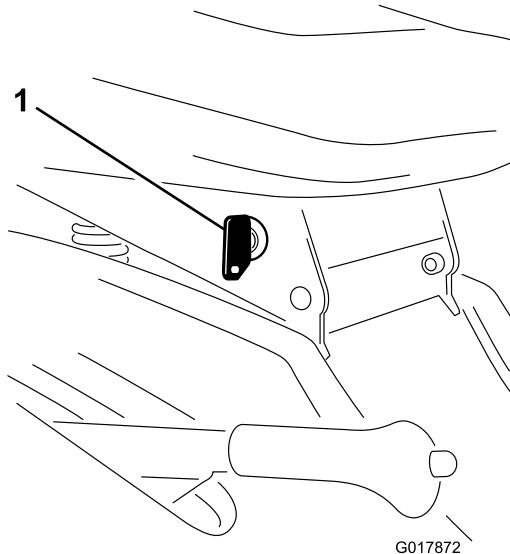

Figure 11
If you need to use the blades (PTO) while backing up, turn off the interlock feature using the KeyChoice switch located near the seat bracket (Figure 11).
2. Insert the KeyChoice key into the switch (Figure 11).